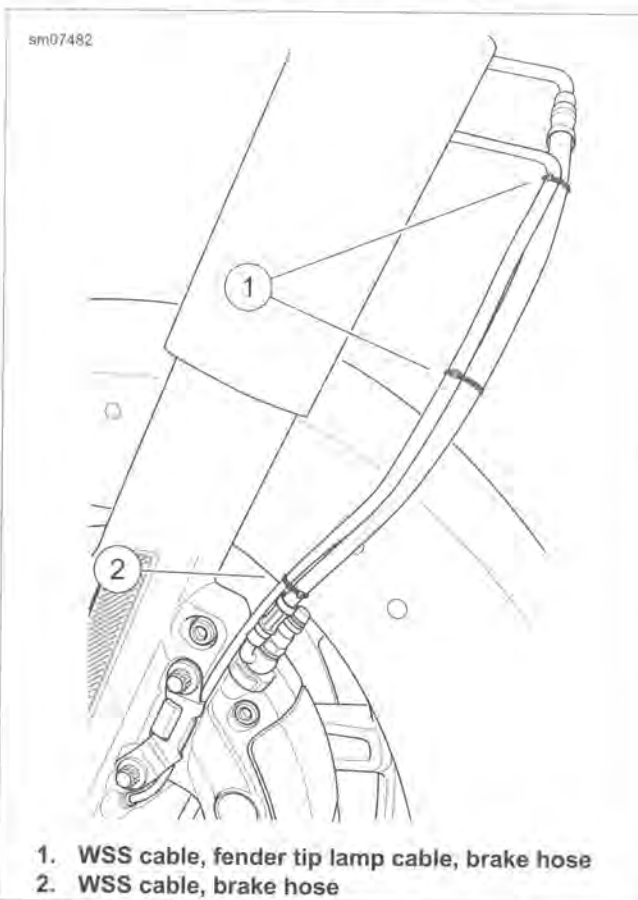

Figure 2-5. Secure Cables and Brake Hose
12. See Figure 2-5. If ABS equipped, install **new** cable straps (1, 2) to secure WSS and fender tip lamp cables.